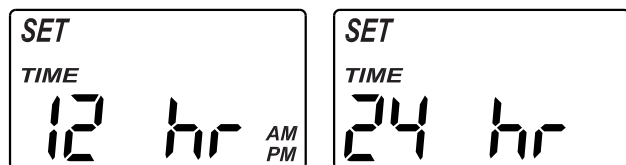

FIG. 30
2. Press the SELECT button three times, so that “12 hr” or “24 hr” flashes in the display (See Figure 30).